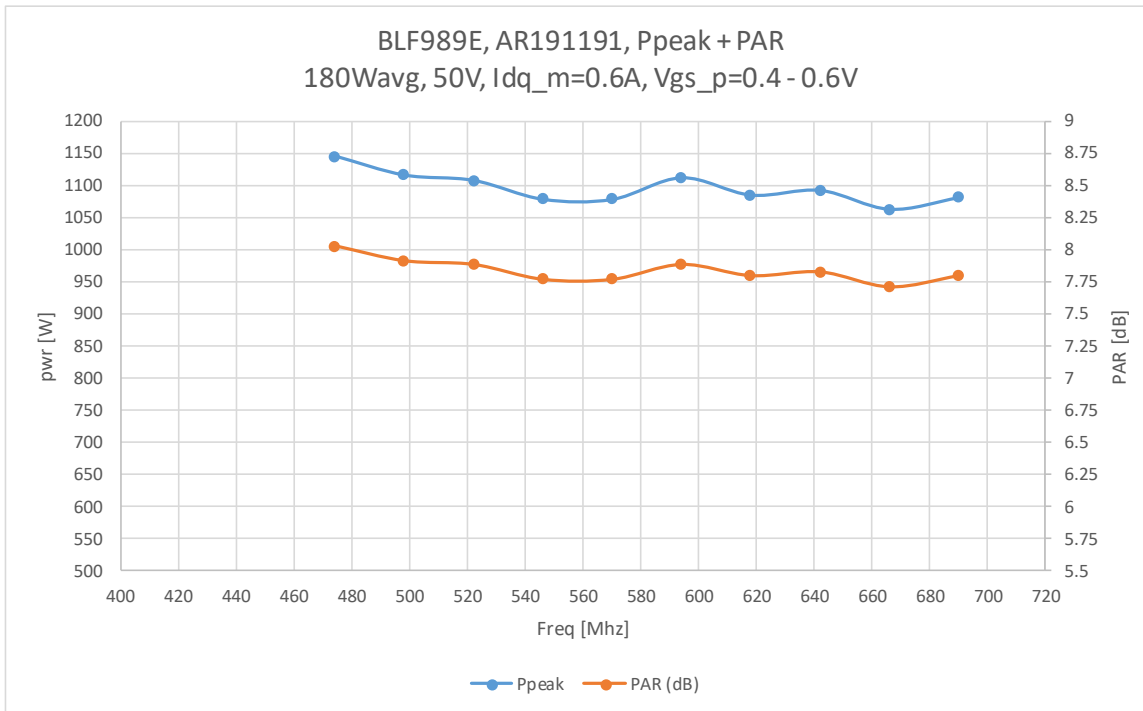

Figure 6 DVB-T, Ppeak + PAR Pre-corrected values
- Figure 6 DVB-T, Ppeak + PARPre-corrected values 8